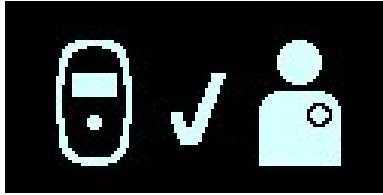

Figure 78: Charger/IPG Pairing Success Screen
5. When the pairing process has been completed, the Vesta Charger will emit 3 short beeping tones and display the Charger/IPG Pairing Success screen. **See Figure 78.**